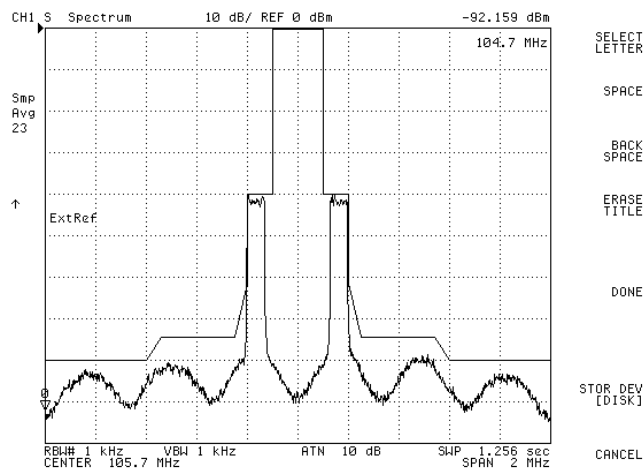

Figure 15 – Typical Properly Aligned HD Only Spectrum
Step 5 – Ensure that all carriers and sidebands are below the mask. Verify that all spurs and impulsive noise are > 80 dB down. The Spectrum should look similar to Figure 15 below when properly aligned.